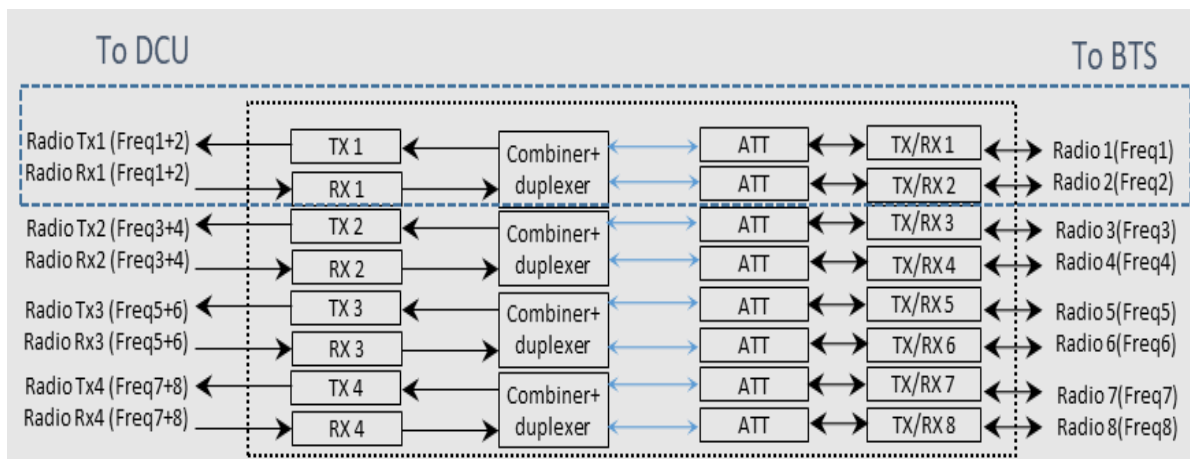

Figure 3. 2 TO 1 Matrix
- Signal combination: The RIU combines different base station signals into one wideband signal, the combination matrix of which is software-controllable, listed in *Figure 3* through 5.